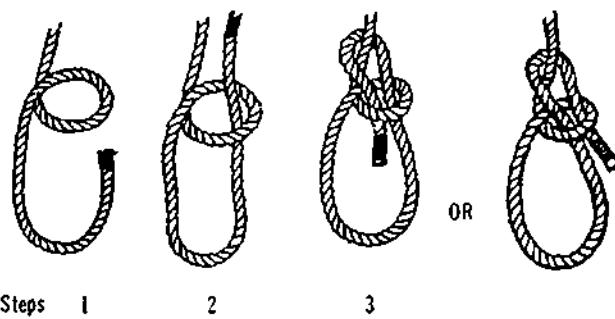

Figure 2-22. Two Methods for Tying the Bowline Knot
n) The bowline knot makes a non-slip loop on the end of a rope. It can easily be untied when the rope is slack. There are two methods of tying a bowline as shown in Figure 2-22.